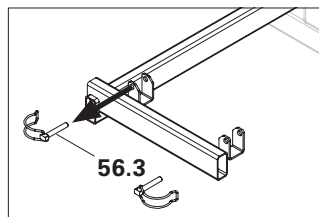

Fig. B5.08
4. Remove tube linch pin (56.3) from the Ladder Connector. (Fig. B5.08)